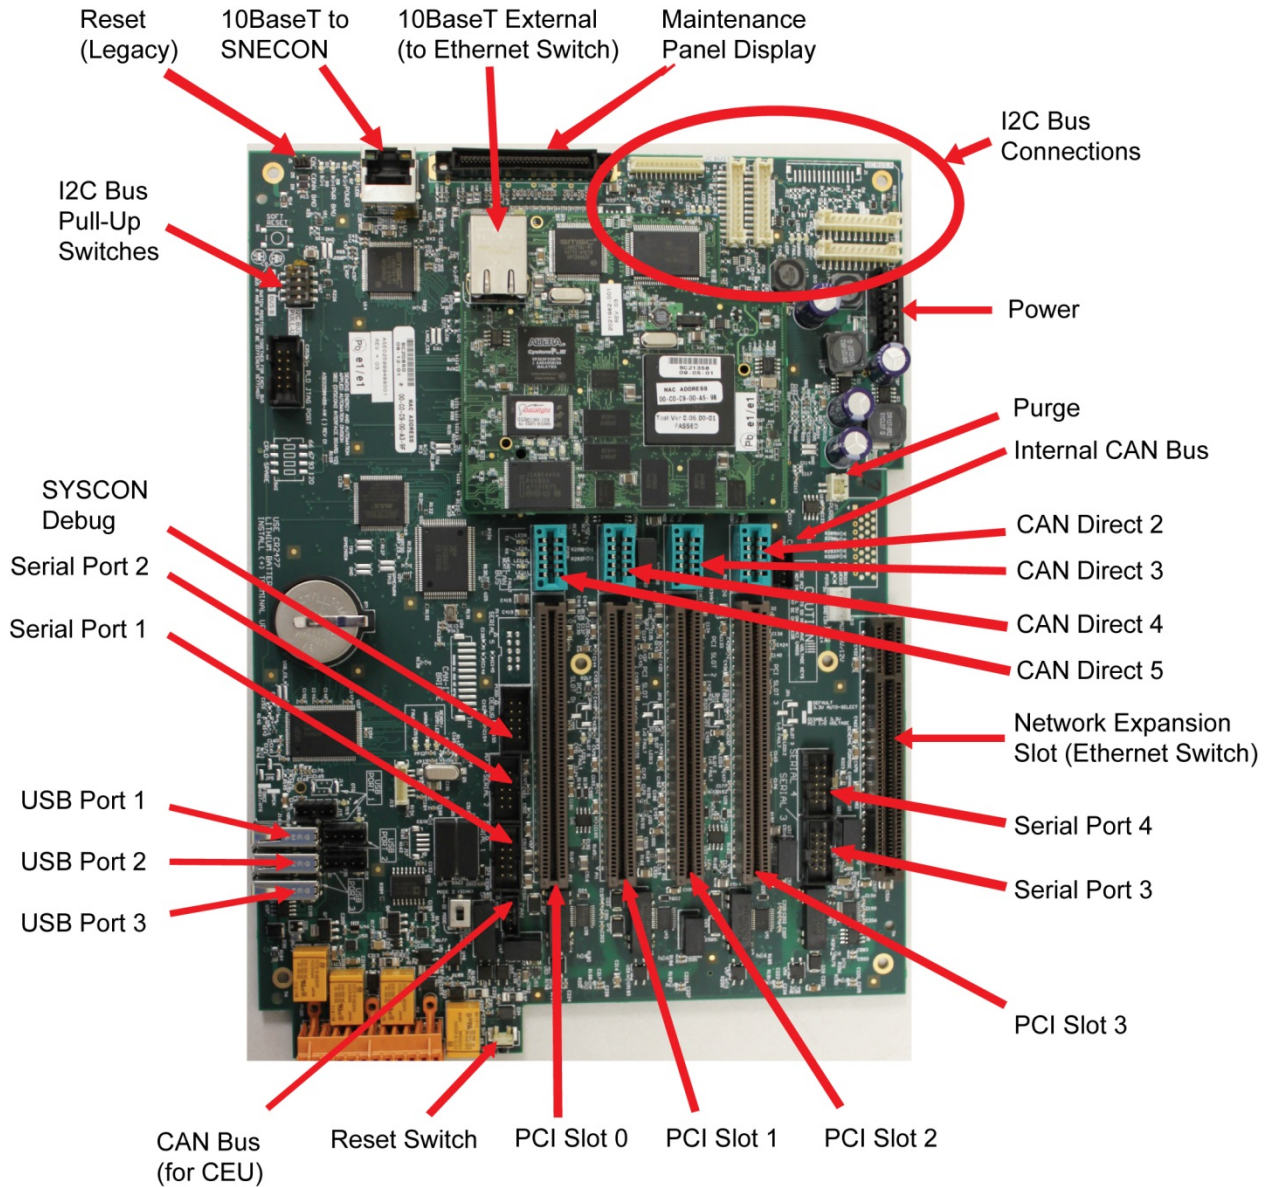
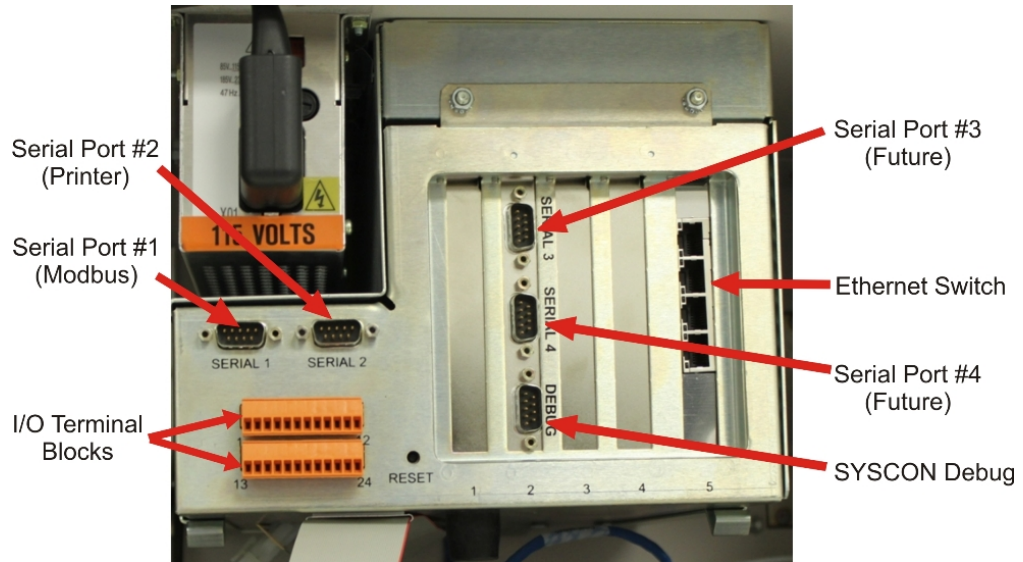

Figure 2-22 SYSCON2 Connections
Figure 2-23 SYSCON2 Assembly Front Connections
Other than external Ethernet, the SIB provides all interfaces for the SYSCON2. The connections are described below. Note that all connectors in the SYSCON2 have the same pin outs as the corresponding connectors in the original SYSCON, except where noted below. Refer to the previous section (legacy SYSCON) for pin outs. Refer to Figure 2-22 and Figure 2-23 for physical connector locations in the SYSCON2:
- **PCI and CAN Direct Slots** – The PCI slots on the SIB are designed to accommodate a variety of special function cards, including Input/Output boards or ANCB board. Four PCI slots are equipped in the SYSCON2; however, typically only three slots are available for use in the standard configuration. This is because one SYSCON assembly slot is utilized for serial/debug port hardware as shown in Figure 2-23. Only cards specified and sold by Siemens for the SYSCON2 should be installed in the PCI slots of the SYSCON2.
- I²C Bus – The I²C connectors are shown in the upper right corner of Figure 2-22. Two I²C buses are equipped on the SYSCON2. These are labeled I²C Bus A and I²C Bus B.
- I²C Bus A includes the two connectors on the right as shown in Figure 2-22. I²C Bus A is dedicated and hard wired to the CAN Bridge function. This allows the new SYSCON2 to interface with legacy CAN I/O cards in the PCI slots.
- I²C Bus B includes the three I²C connectors on the left as shown in Figure 2-22. I²C Bus B is intended for use to support future configuration changes in the Maxum II.
- Resets – The SYSCON2 is equipped with two connections for SYSCON reset. The first connection, located at the front of the board (bottom of Figure 2-22), is a pushbutton switch. This switch may be accessed via the front of the newest version SYSCON assembly cage as seen in Figure 2-23. The second connection consists of two pin connections at the back of the board (top left of Figure 2-22). This second connection operates using a simple loop closure and is provided to support legacy SYSCON assembly cages that provide a separate wired pushbutton reset. Both connections allow the user to initiate a hard reset of the SYSCON (same as initial power up).